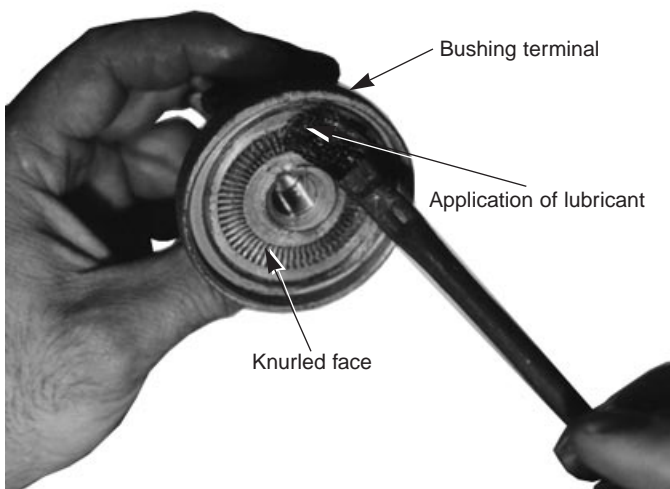

Figure 13.
3. Apply a light layer of lubricant (grease), included with this kit, on the knurled face inside of the bushing terminal (refer to Figure 13). Then place a new terminal gasket on top of the lubricated area of the bushing terminal.